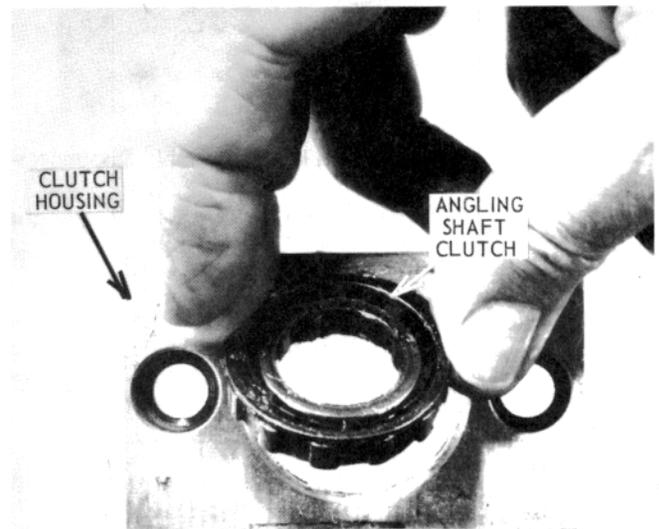

Figure 76 – Angling Shaft Clutch
- 6.1.12 The angling shaft clutch can be removed from its housing for examination or replacement. Replacement is required if the actuating spring has any cracks, if any of the fingers that press against the sprags are broken, or if any of the sprags are broken. The clutch should be lightly oiled and replaced in its housing with the flange up and on the same side of the countersunk housing bore (see Figure 76).